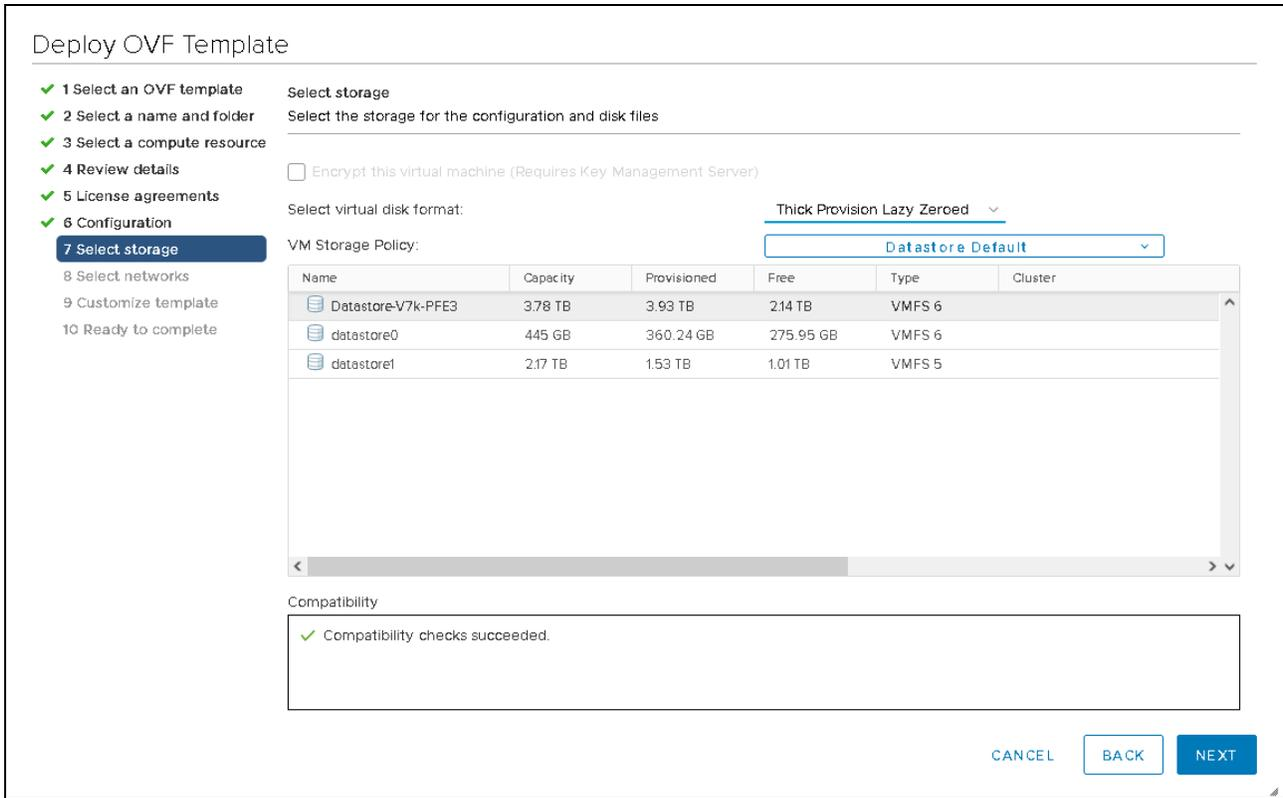

Figure 3-12 Selecting storage
9. Select the storage by selecting the virtual disk format and the data store in which you want to allocate storage space for the VMDK of the virtual appliance. The required data store depends on configuration, small or large, that was selected in step 8 on page 46. Figure 3-12 shows an example.